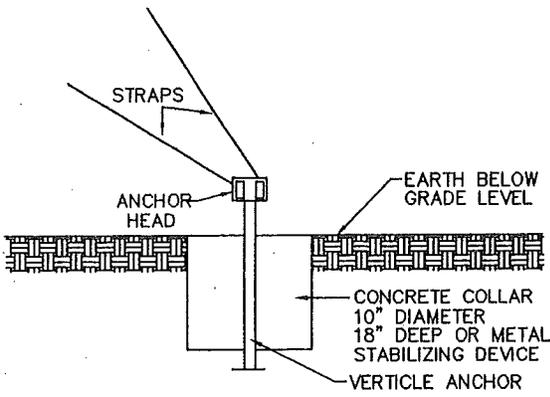

FIGURE 38
3. IF ANCHOR IS INSERTED VERTICALLY, A CONCRETE COLLAR OR STABILIZING DEVICE MUST BE USED AT THE GROUND LINE. SEE FIG. 38 & 39.